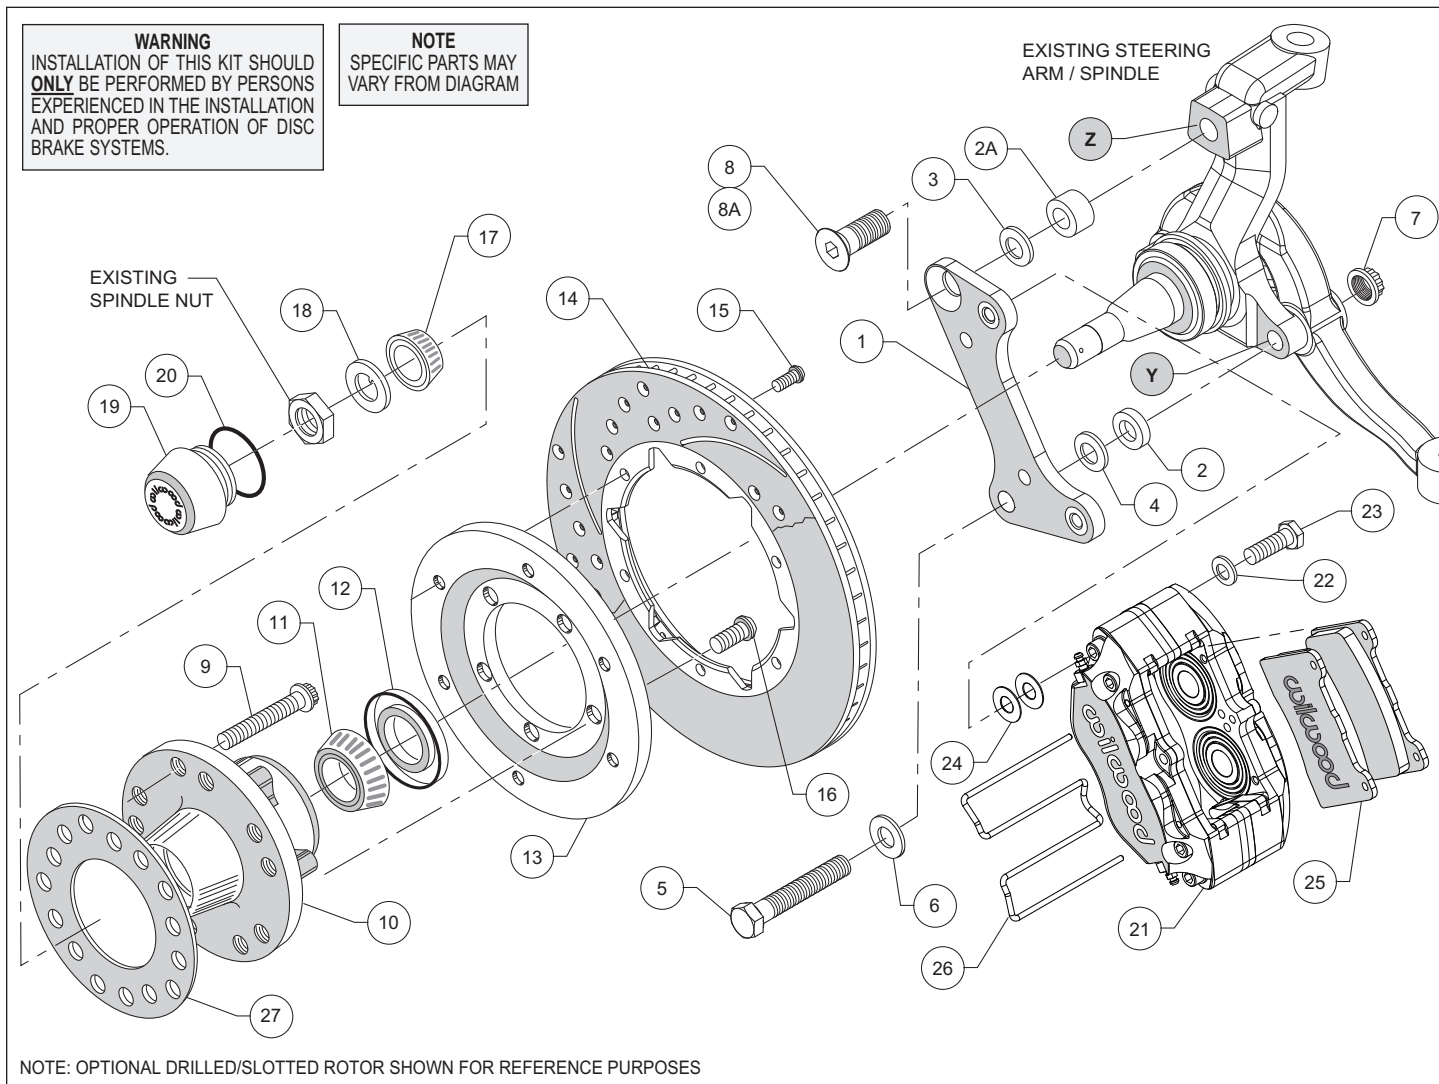
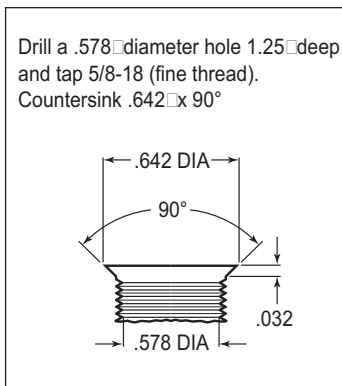
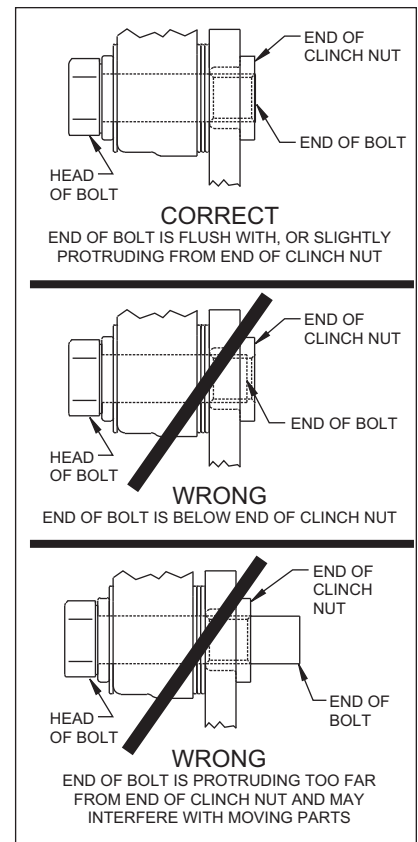

Figure 1. Typical Installation Configuration
Figure 3. Drill and Tap Detail
Figure 4.
Assembly Instructions (numbers in parenthesis refer to the parts list and Figure 1 on the preceding page): **CAUTION:** All mounting bolts must fully engage clinch nuts. Be sure to check that all bolts are either flush or protruding through flanged side of clinch nut after shimming, Figure 4.
•**NOTE:** 1964-66 spindles may require the following modifications (reference Figure 1 and Figure 3): Top anchor pin hole (Z) must be drilled and tapped to the dimensions as outlined in Figure 3. Bottom rear steering arm bolt hole (Y) in the spindle and steering arm must be enlarged to .50" by drilling.
- Pack the large inner bearing cone (11) with high temperature disc brake bearing grease (available from your local auto parts store) and install into the backside of the hub (10), Photo 2.
- Install the grease seal (12) by pressing into the backside of the hub (10), flush with the end of the hub, Photo 2.
- Orient the rotor (14) and the rotor adapter (13) as shown in Figure 1 and Photo 3. Attach the rotor to the adapter using bolts (15). Using an alternating sequence, apply red *Loctite*® 271 to the threads, and torque to 25 ft-lb.
- Mount the adapter/rotor assembly (13/14) to the hub (10) using bolts (16), as shown in Figure 1 and Photo 4. Using an alternating sequence, apply red *Loctite*® 271 to the threads, and torque to 55 ft-lb.
- Attach caliper mounting bracket (1) to spindle face using lower bolt (5), washer (6), and a .090" thick spacer (2) positioned between the bracket and the spindle face, as shown in Figure 1 and Photo 5. Secure bolt on the backside of the steering arm with lock nut (7). Finger tighten. Install upper bolt (8) (for drum spindle) or bolt (8A) with spacer (2A) between bracket and spindle (for disc brake spindle), Photo 6. Ensure that the flanged heads of the clinch nuts in the bracket are facing outboard, Photo 6. Temporarily tighten the mounting bolts and install the new hub/rotor assembly (10/14). Check that the bracket is aligned parallel to the rotor, Photo 7. If not, adjust by adding shim washers (3 and/or 4) between spacers (2 and/or 2A) and the bracket, Figure 1. Once the bracket alignment is correct, remove the upper bolt (8 or 8A), apply red *Loctite*® 271 to bolt threads, and torque to 120 ft-lb. Torque lock nut (7) to 65 ft-lb.
- Pack the small outer bearing cone (17) with high temperature disc brake bearing grease and install into hub (10). Slide the hub/rotor assembly onto the spindle. Secure using spindle washer (18) and OEM spindle nut, Photo 8. Adjust bearings per OEM specifications. Install saved OEM nut lock (if any) and a new cotter pin (not included).
- Screw dust cap (19) into hub (10). Friction created by the o-ring on the dust cap keeps it from unscrewing. **NOTE:** The O.D. of the existing OEM spindle washer may be larger than the I.D. of the dust cap not allowing it to seat against the hub face. Therefore, use the spindle washer (18) supplied with the kit instead of the OEM washer.
- NOTE:** Please reference the caution statement at the beginning of the assembly instructions. Mount the caliper (21) onto the caliper mounting bracket (1) using bolts (23) and washers (22), as shown in Figure 1. Initially place two .032" thick shims (24) on each bolt between the caliper and the bracket, Photo 9. Temporarily tighten the mounting bolts and view the rotor (14) through the top opening of the caliper. The rotor should be centered in the caliper, Photo 10. If not, adjust by adding or subtracting shims between the bracket and the caliper. Always use the same amount of shims
on each of the two mounting bolts. **NOTE:** The end of each bolt must be flush with or slightly protruding from the head of the clinch nut, as shown in Figure 4. If necessary place spare shims between washer (22) and caliper mounting ear to achieve the proper clinch nut engagement, as shown in Figure 4. Once the caliper alignment and clinch nut engagement are correct, remove the bolts one at a time, apply red *Loctite*® 271 to bolt threads, and torque to 40 ft-lb.
- Install the disc brake pads (25) into the caliper, with the friction material facing the rotor (14), and secure in place using the pad clip retainer (26), Photo 11.
- Temporarily install wheel and torque lug nuts to manufacturer's specification. Ensure that the wheel rotates freely without any interference. **NOTE:** Wheel spacer (27) MUST be used if any wheel contact surfaces overhang the outside diameter of the hub face. See warning on page 4.
- Install the wheel and torque to manufacturer's specifications. **NOTE:** Wheel spacer (27) MUST be used if any wheel contact surfaces overhang the outside diameter of the hub face. See warning on page 4.